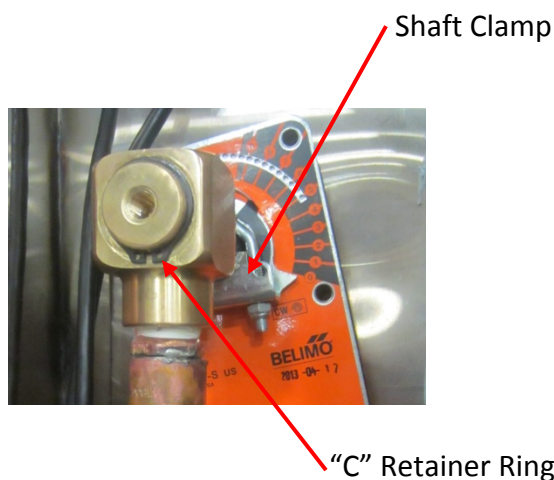

Figure 4-38-1
- 5) Remove the “C” retainer ring from the brass swivel elbow (Refer to Figure 4-38-1).
- 8) Loosen the shaft clamp around the manifold (Refer to Figure 4-38-1)
- Remove the “C” retainer ring from the brass swivel elbow (Refer to Figure 4-38-1).